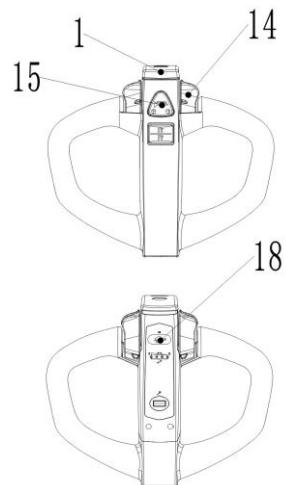

Fig.7: Control handle
Press the horn button (Fig.7,15) to activate the audible warning signal.
Control the travel speed by turning the accelerator (Fig.7,14) carefully until the truck reaches your desired speed.
Press the turtle button (Fig.7,18) to enter into slow travel mode, travel slowly by turning the accelerator in the desired direction. Press the turtle button again to resume travelling at normal speed.
- By setting the accelerator (Fig. 7, 14) to the neutral “0” position or by releasing the accelerator, the regenerative brake is activated. The truck brakes to a halt.
- By turning the accelerator (Fig. 7, 14) in the opposite direction, the regenerative brake is activated. The truck brakes and begins traveling in the opposite direction.
- Operate the collision safety switch (belly button) (Fig. 7, 1) to protect the operator from being crushed. If this switch is activated, the truck brakes and travels a short distance in the opposite direction.